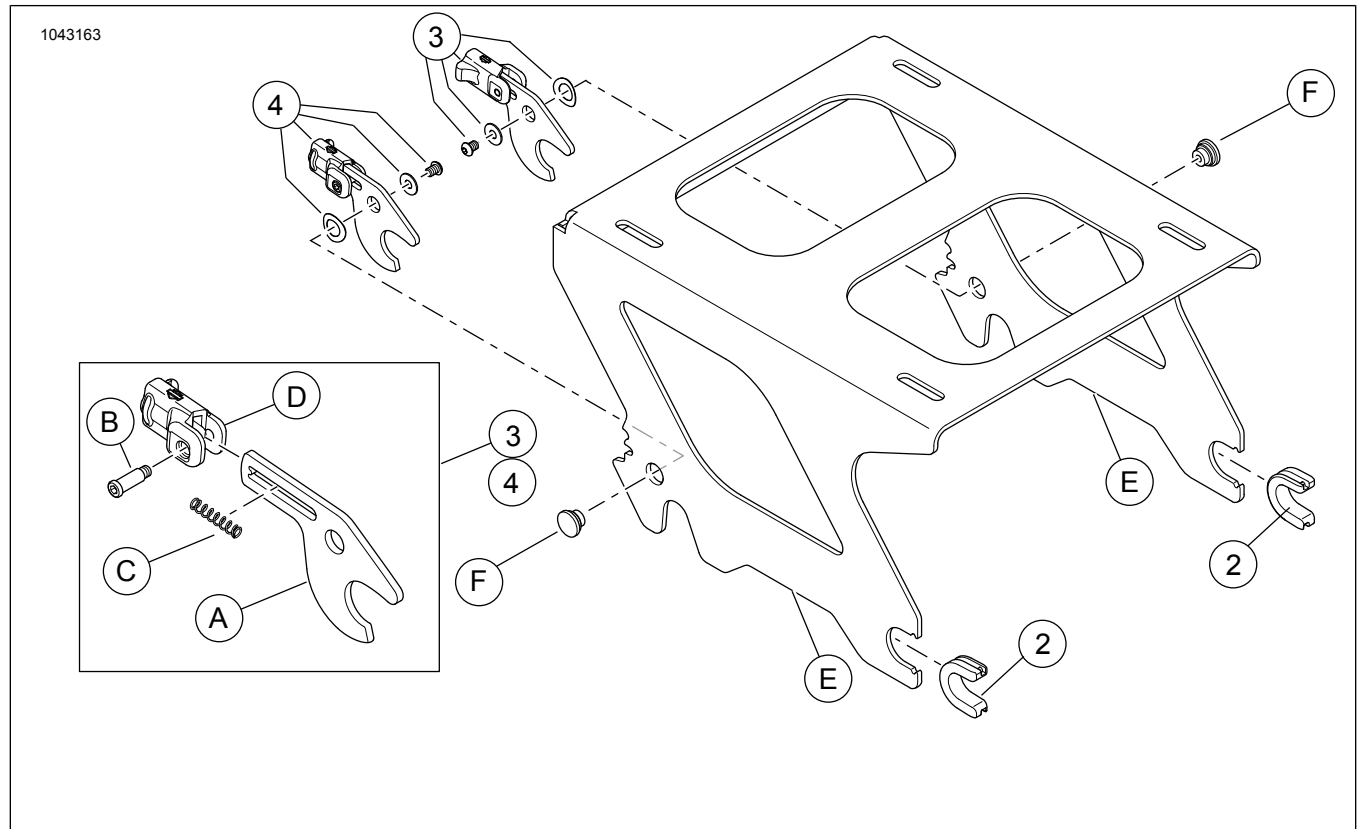

Figure 3. Service Parts, Detachable Tour-Pak Mount Kits
Refer to Figure 3 and Table 1.
- See Figure 3. Position the right (4) and left (3) latch levers in the unlocked position as shown in Figure 1, upper view (Item 1).
- Pull both detent levers (3) rearward against the compression spring (8, not visible).
- Rotate the levers upward so each latch nose (4) is positioned inside the lower rear notch (9) of the side plate (6).
- Each detent pin (7) is now located in the uppermost (unlocked position) notch.
- The compression spring (8) inside the detent lever holds the latch (5) in the unlocked position.
- Push the Tour-Pak® mount front notches (10), with grommets (11) in place, firmly and evenly into the front docking points (12).